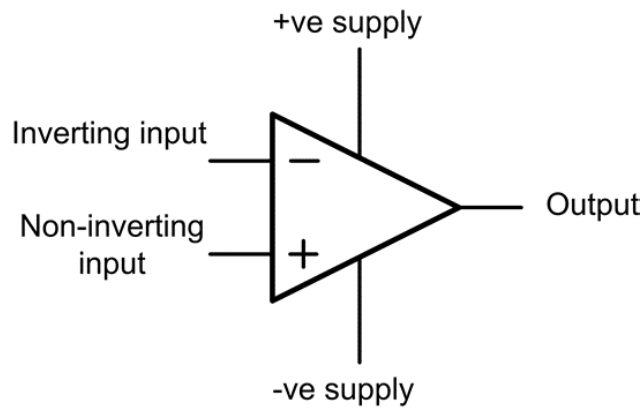

Figure 1.33 Symbol for an operational amplifier
- The symbol for an operational amplifier is shown in Fig. 1.33.